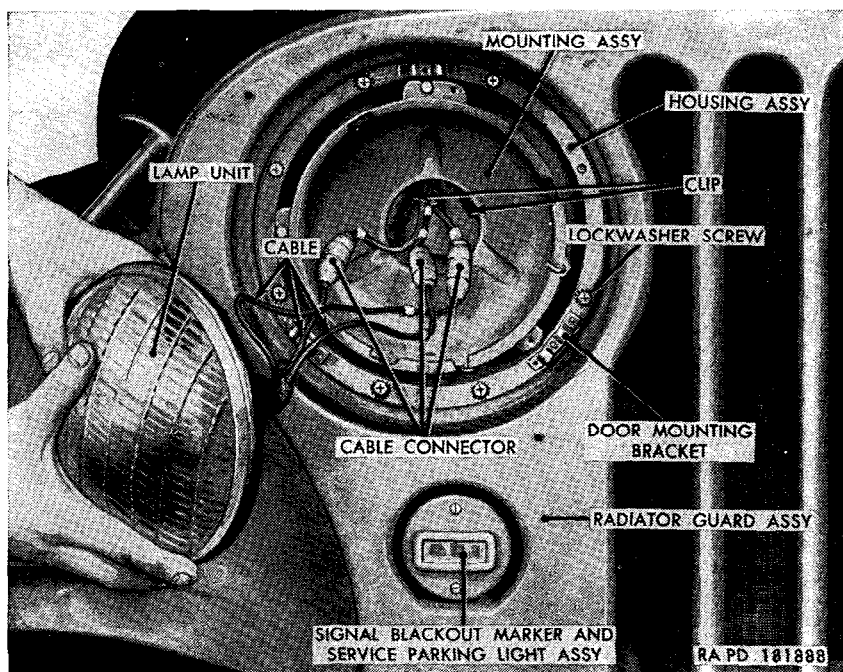
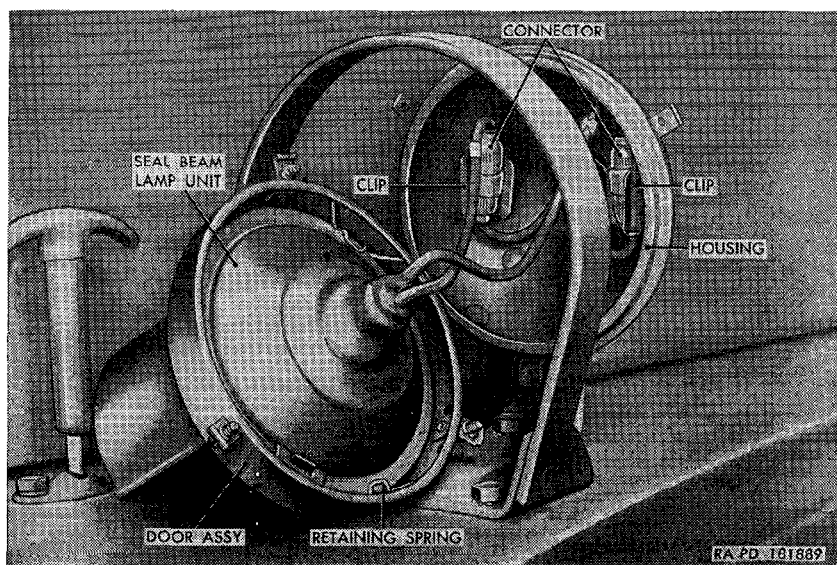
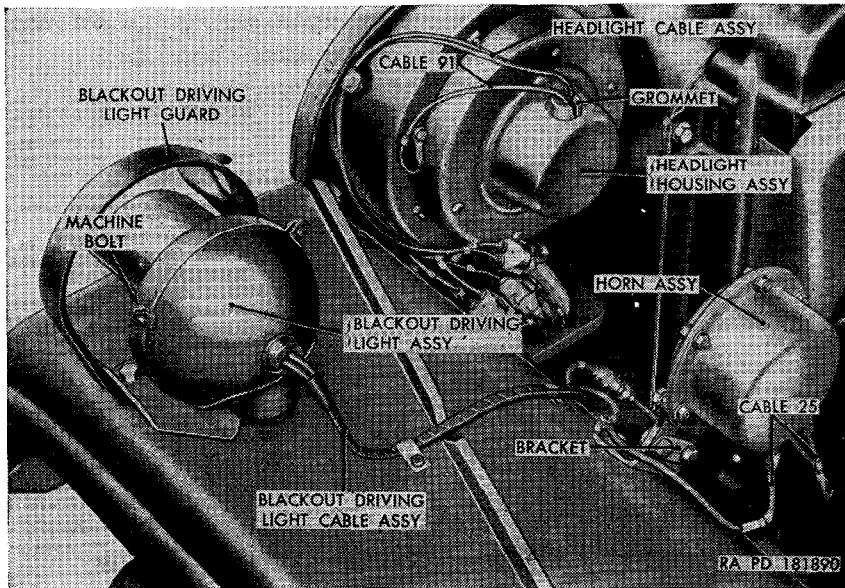
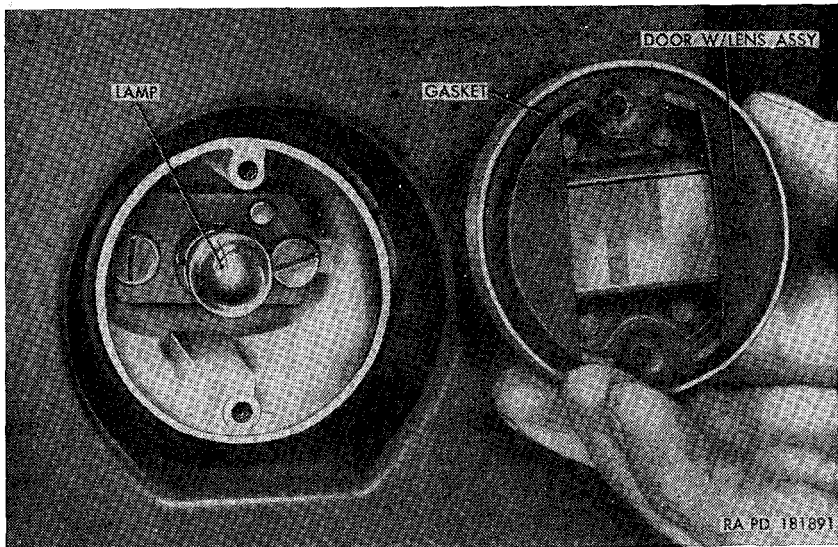

Figure 102. Removing headlight lamp-unit with cables assembly.
Figure 103. Blackout driving light-lamp-unit assembly withdrawn from housing.
Figure 104. Headlight, blackout driving light, and horn assemblies—installed.
Figure 105. Signal blackout marker and service parking light assembly—door removed.
- (c) Lift lamp-unit out of the mounting assembly and pull the cable connectors out of the clips in the housing assembly (fig. 102).
- (2) *Installation.*
- (a) Position the lamp-unit at housing assembly and connect the cable connectors (fig. 102) of cables 17, 18, and 91.
- (1) Follow procedure in b(1) above.
- (2) Remove the grommet, headlight cable assembly, and the ground cable 91 from the headlight housing assembly (fig. 104).
- (3) Remove the seven lockwasher screws from the front, and one lockwasher screw from the rear, securing the headlight housing assembly and the ground cable 91, to the radiator guard assembly, and remove the headlight housing assembly with the lamp-unit mounting assembly (fig. 102) and the headlight assembly mounting pad from the vehicle.
- (1) Position the mounting pad on the rear of the housing assembly and align pad mounting holes with housing mounting holes.
- (2) Position the housing assembly and mounting pad in radiator guard assembly (fig. 102) and align housing and pad mounting holes with radiator guard mounting holes. Secure housing and pad to guard with seven No. 10 x 1/2 lockwasher screws from the front. Position the cable 91 (fig. 104) on the guard assembly at the rear and install a No. 10 x 1/2 lockwasher screw.
- (3) Insert headlight cable assembly and cable 91 through the hole in the top of the headlight housing assembly and press grommet into hole. Pull cables to front of housing far enough to connect lamp-unit.
- (4) Follow procedure in *b*(2) above.
- (a) Loosen the three door assembly bolts and pull the door and lamp-unit with cables free from the housing (fig. 103).
- (c) Remove the three lamp-unit retaining springs (fig. 103) from the door, and remove the lamp-unit.
- (c) Position the door and lamp unit on the housing and align the door bolts (fig. 104) with the housing mounting holes. Start the bolts into the mounting holes and tighten equally.
- (1) Follow procedure in *a*(1) above.
- (2) Pull the cable assembly and the grommet out of the housing.
- (3) Remove the nut, lockwasher, and washer securing the blackout driving light assembly to the blackout driving light guard, and remove the light from the vehicle.
- (1) Remove the two bolts securing the door with lens assembly of the signal blackout marker and service parking light (fig. 102) and remove the door and the door gasket (fig. 105).
- (2) Reach into light assembly and turn lamp counterclockwise and remove lamp.
- (3) Insert new lamp into lamp socket and turn clockwise to lock lamp in position.
- (4) Position door with lens assembly and door gasket on signal blackout marker and service parking light assembly and secure door to light with two No. 8 x 1/2 bolts.